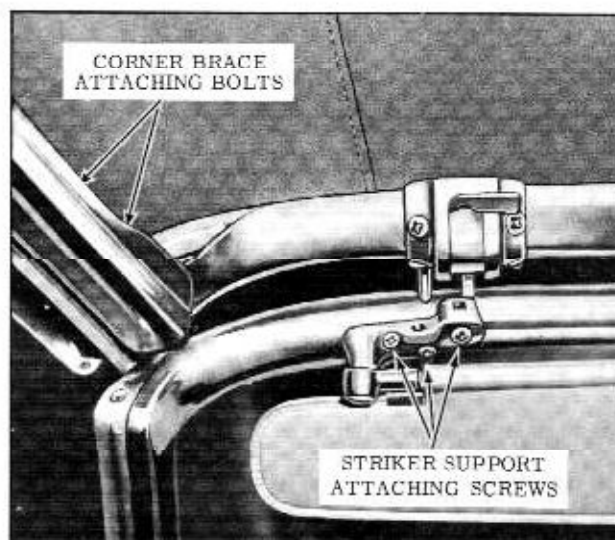

Fig. 15-77 Engaging Roof Header with Striker
6. Holding top down with one hand, reach into car and engage each folding top locking handle with striker on windshield header. (Fig. 15-77)
2. Loosen striker support attaching screws and adjust striker as required; then tighten attaching screws (Fig. 15-77)